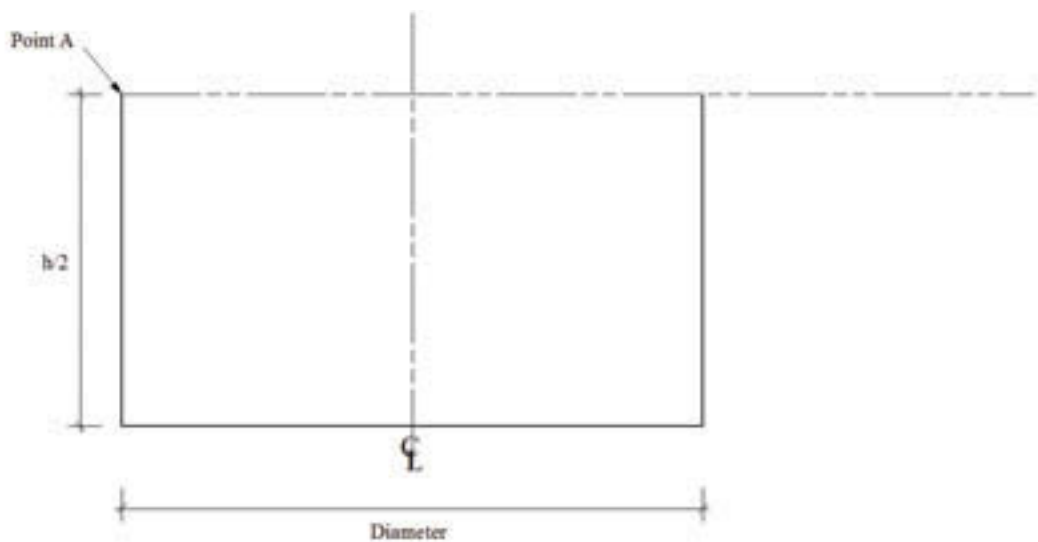

Fig. 78: Tank shape, bottom — Step 1
- Determine the curve of the tank bottom. First, draw the bottom of the tank as a rectangle and draw a horizontal line at the tank's midpoint. Label the beginning of this line as Point A. Extend this line past the edges of the tank (figure 78).